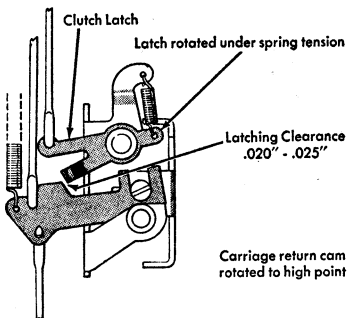

Figure 43. Clutch Latching Clearance
3. **FRONT CLUTCH LEVER LINK.** Adjust so that, with the cam on its high point, the clutch lever will clear the clutch latch by .020" to .025" (Figure 43).